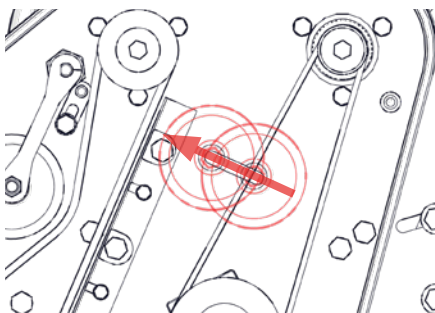

Fig. 16H - Loosen the tensioner pulley.
- i. If re-tensioning only, skip to step iii. Loosen the tensioner pulley [9/16" spanner] (Fig. 16H).